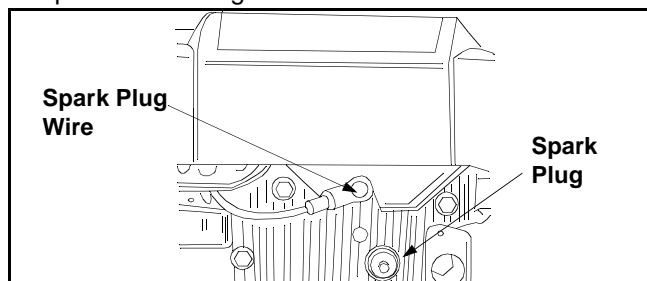

Figure 1
- Before setting up your lawn mower, disconnect the spark plug wire from the spark plug and ground against the engine. Leave safety key in locked position. See Figure 1.